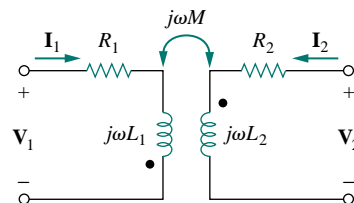

Figure 13.75 For Prob. 13.5.
13.5 Determine V_1 and V_2 in terms of I_1 and I_2 in the circuit in Fig. 13.75.